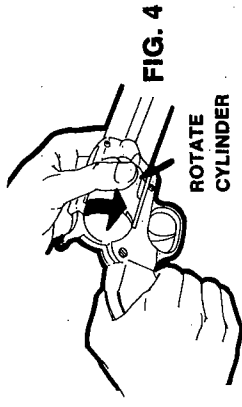

FIG. 4
- C With Muzzle pointed away from you and in a safe direction, rotate Cylinder clockwise. If Cylinder fails to rotate, Pellet is jammed between Cylinder and Barrel and it will be necessary to use considerable force to turn Cylinder (fig. 4). This action will shear Pellet in half.